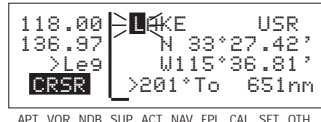

Figure 5-21
- (**CRSR**). It will flash over the first character in the waypoint identifier field (figure 5-21).